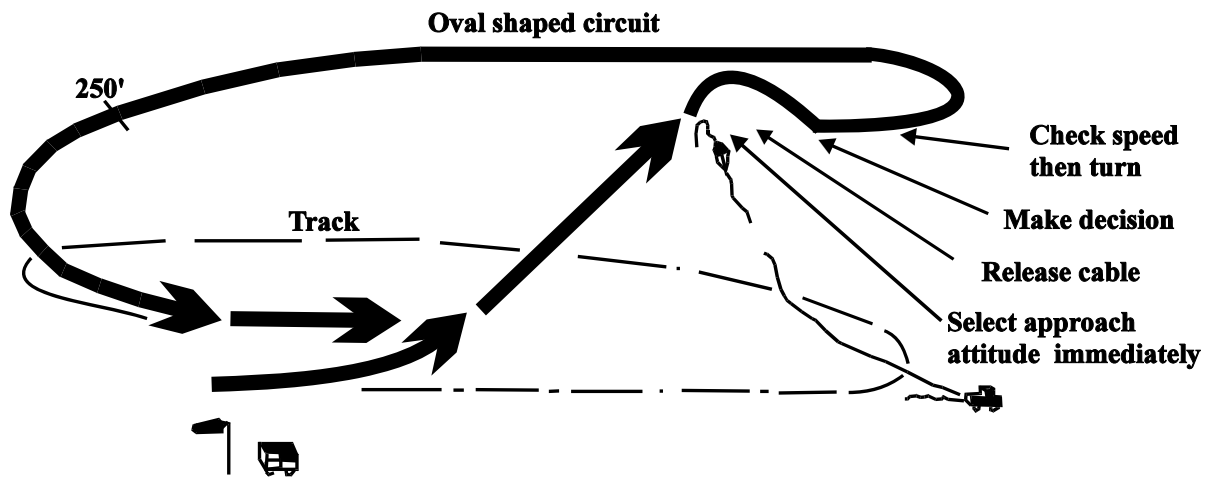

Fig 17. High launch failure.
4. **High launch failure.** (See Fig 17)